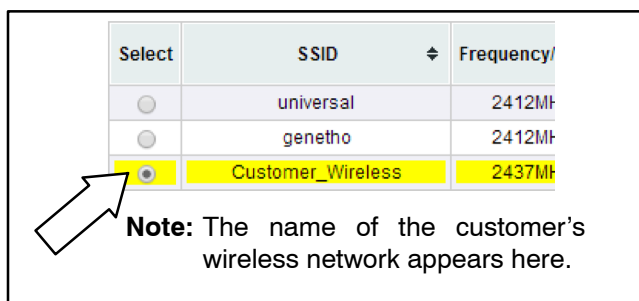

Figure 16 Select the Customer's Wireless Network
10.1 Under Site Survey, select the customer's wireless network name (shown as Customer Wireless in this document). See Figure 16.